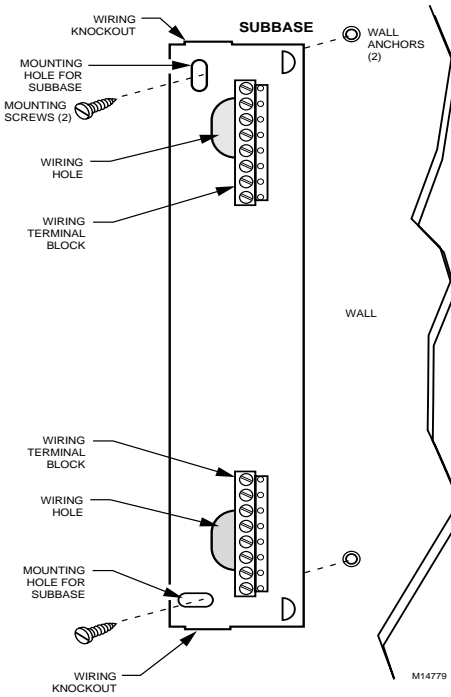

Fig. 4. Mounting W8735B subbase.
5. Locate the two mounting holes on the subbase. See Fig. 4.